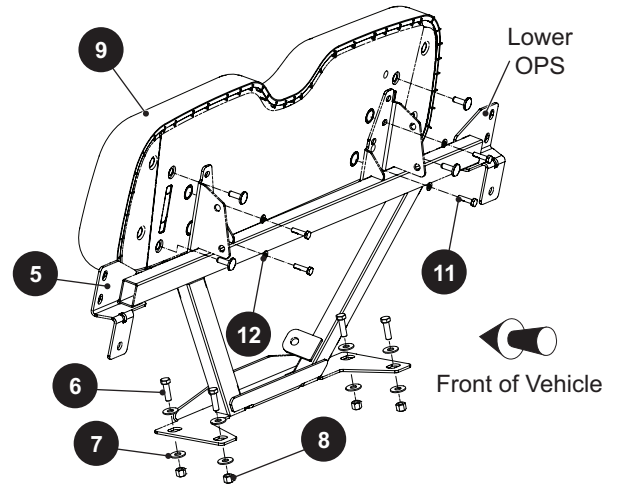

Fig. 1 Front Seat Back Removal
- To remove front seat back (9), remove four screws (11) and lock washers (12) securing the seat back to the lower OPS (Ref. Fig. 1).
- Remove the four lock nuts (8), washers (7), and bolts (6), from the seat back support (5) (or lower OPS).